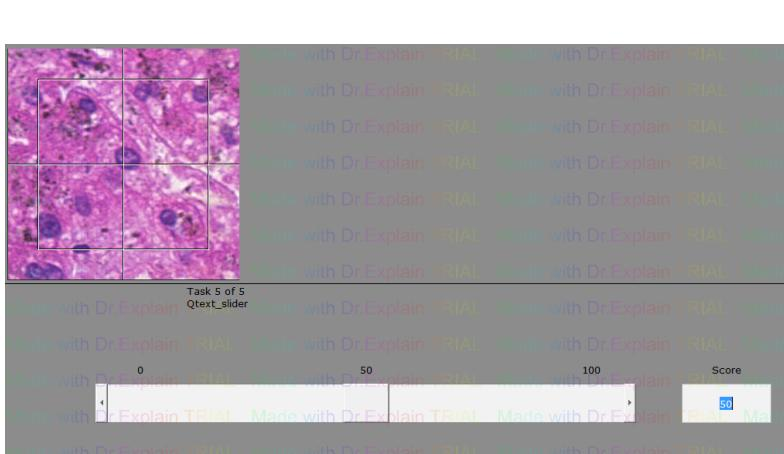

Figure 4
1. On a scale 0-100, rate the tissue using the slider or typing in the number (Figure 4)